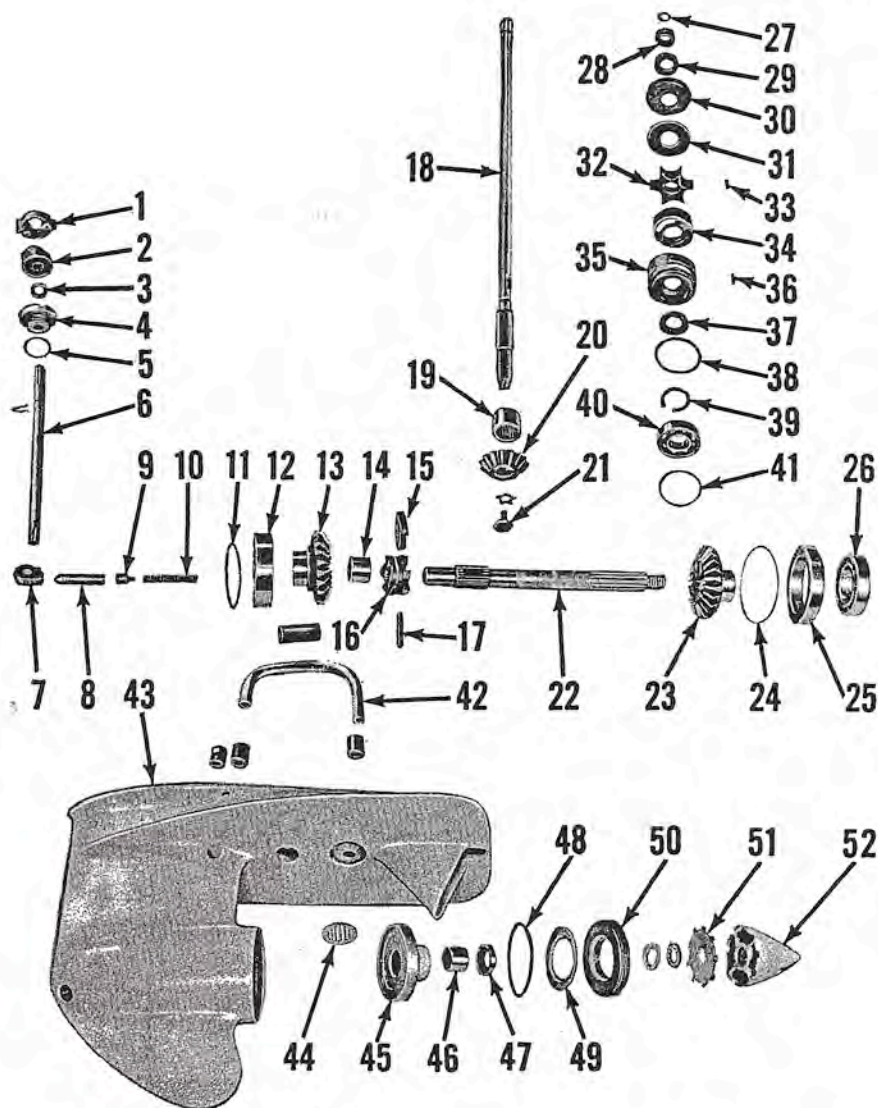
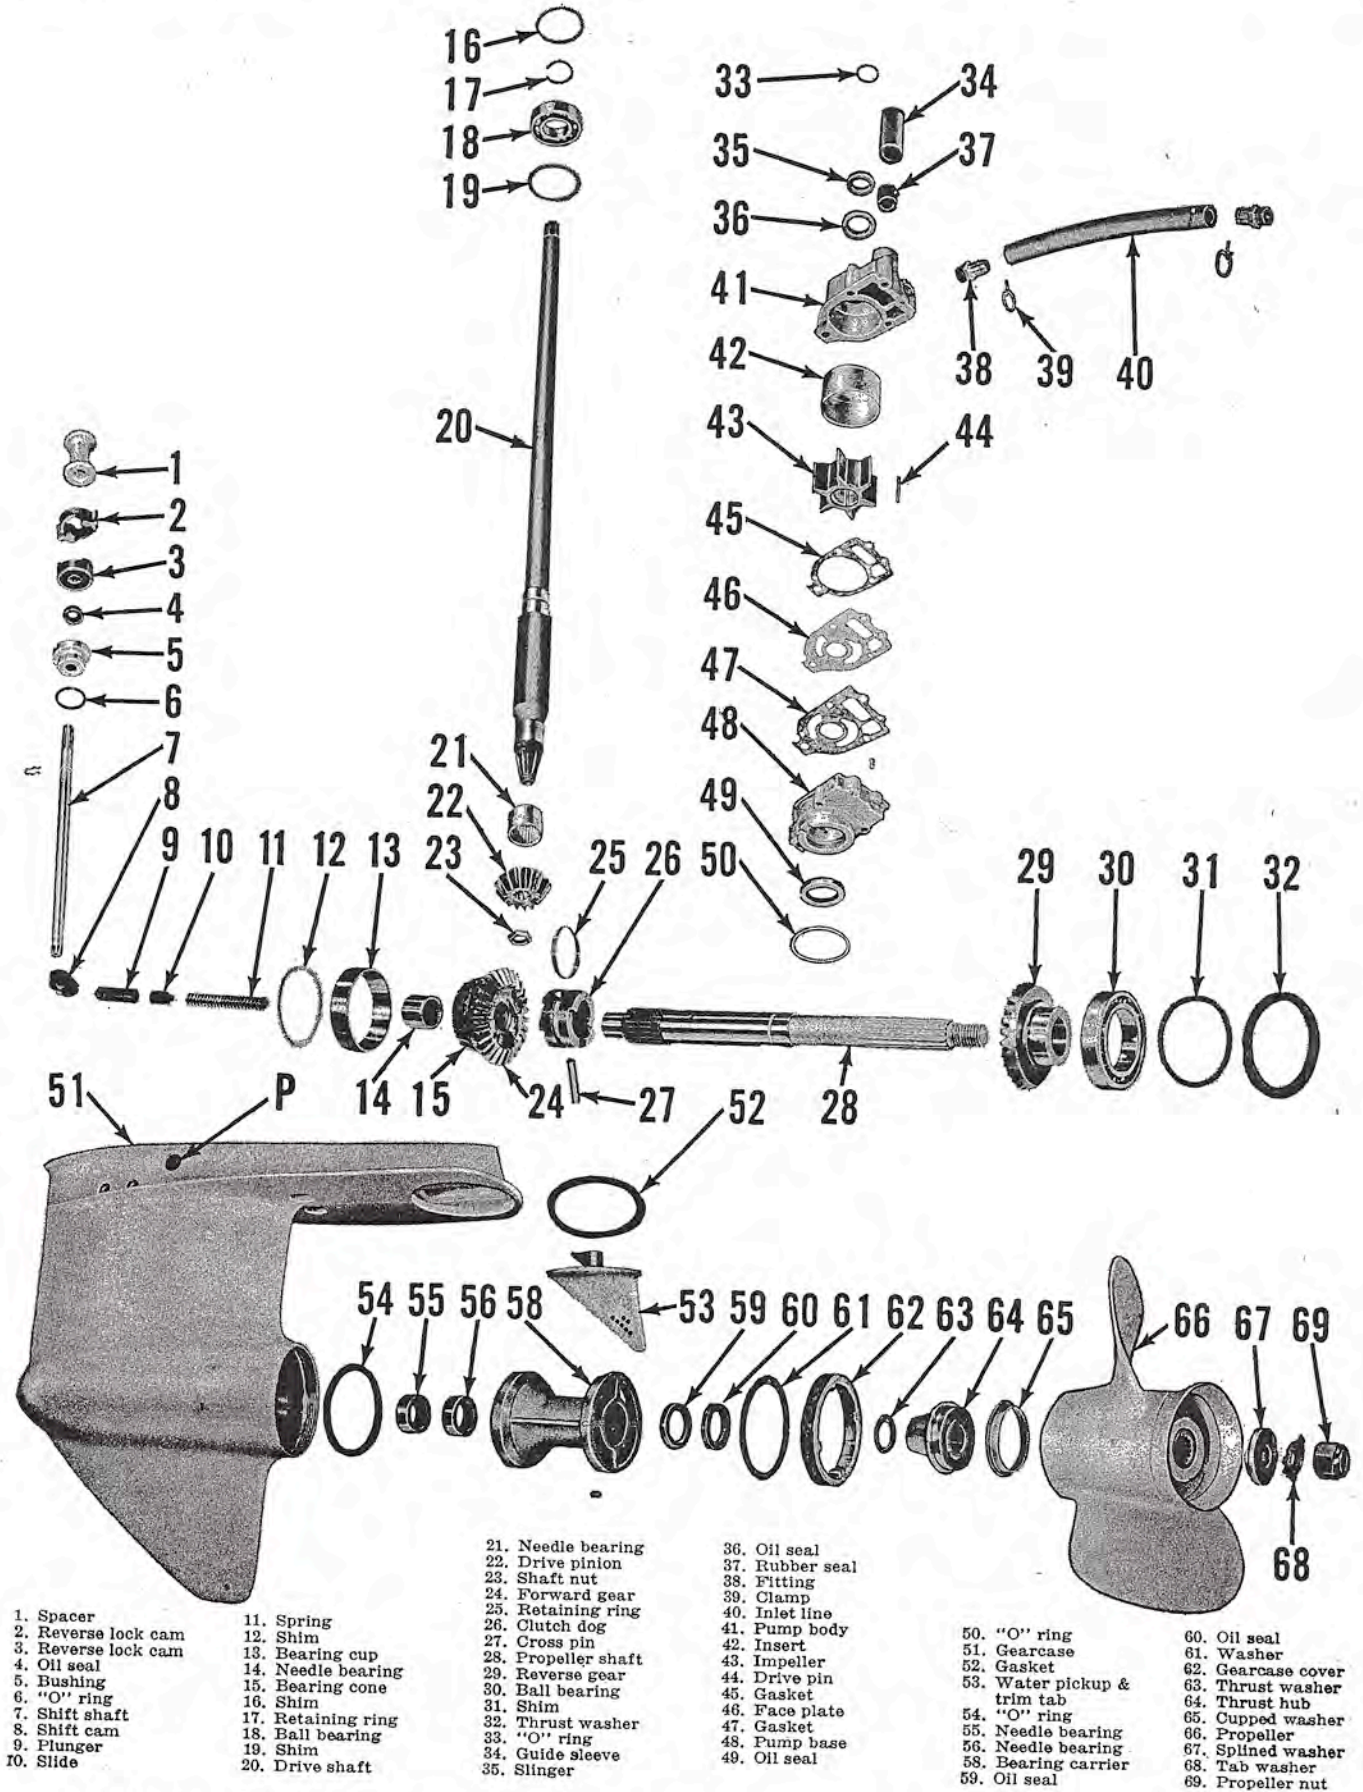

Fig. M100—Exploded view of gearcase assembly used on Four Cylinder models.
Fig. M101—Exploded view of lower unit gearcase and associated parts used on six cylinder, full gear shift models.
is removed, clamp the housing in a protected vise and remove the gearcase cover (50—Fig. M100 or 62—Fig. M101) with a suitable spanner wrench such as 91-22119 for four cylinder models; or 91-30291A1 for six cylinder models. Grasp the propeller shaft in the vise and remove shaft and bearings by tapping housing off with a soft mallet. Forward gear (13—Fig. M100 or 24—Fig. M101) will remain in housing. On four cylinder models, remove the adaptor ring
(25—Fig. M100) and save the shims (24). Shims control the backlash of reverse gear (23).
To disassemble the drive shaft, the water pump must first be removed. On four cylinder models, remove the water pump cover (30—Fig. M100) using Mercury tool 91-22119
On six cylinder models, disassemble pump as removed, using Fig. M101 as a guide. The flushing plug must be removed from plug hole (P) before pump base (48) can be withdrawn.
To remove the drive shaft, remove the retaining screw (21—Fig. M100) or nut (23—Fig. M101). Clamp the drive shaft in a protected vise and tap the housing downward with a soft mallet. Remove and save the shim pack (41—Fig. M100 or 19—Fig. M101) located under the drive shaft ball bearing. These shims control the mesh position of drive pinion. On six cylinder motors, shims (19—Fig. M101) are identical to shims (16) above the bearing which control shaft end play. The two shim packs should not be mixed.
The forward gear (24—Fig. M101) on six cylinder models can be removed after drive shaft and drive pinion have been removed. Forward gear (13—Fig. M100) on four cylinder models can usually be removed after drive shaft is out by jarring open end of gearcase on a wooden block.
If any of the major components are renewed, or if incorrect before disassembly, the backlash must be checked and adjusted. On four cylinder models install forward gear (13—Fig. M100) and bearing (12) using the same thickness shims (11) as were removed. Temporarily install drive shaft (18) and bearing (40) using the removed shim pack (41). Install pinion (20) and retaining screw (21); then tighten screw. Backlash should be 0.003-0.005 and ends of teeth on gear (13) and pinion (20) should be even and fully meshed. Adjust backlash by disassembling; then adding or removing shims (11). If mesh position was incorrect, add or remove shims (41). Shims are available in thicknesses of 0.002, 0.003, 0.005 and 0.010.
On six cylinder models make a trial assembly by installing bearing cup (13—Fig. M101) and shims (12); then forward gear (24) and bearing cone (15). Install drive shaft (20) and bearing (18) using the removed shim pack (19); then install pinion (22) and nut (23). Tighten the driveshaft nut. Insert the stripped propeller shaft (28) through forward gear to hold it in position; then check the backlash. Adjust to 0.003-0.005 by adding or removing shims (12). Adjust mesh position by means of shims (19). Shims are available in thicknesses of 0.002, 0.003, 0.005 and 0.010.
When adjustment is complete, reassemble by reversing the disassembly; then measure backlash of the reverse gear. Adjust to 0.003-0.005 by means of shims (24—Fig. M100 or 31—Fig. M101). NOTE: Adding shims in four cylinder models will INCREASE backlash.
On six cylinder units, add sufficient quantity and thickness of shims (16—Fig. M101) to bring the assembled height flush with seating surface of water pump base (48). This measurement can best be determined by installing additional shims, then measuring the resulting gap with a feeler gage.